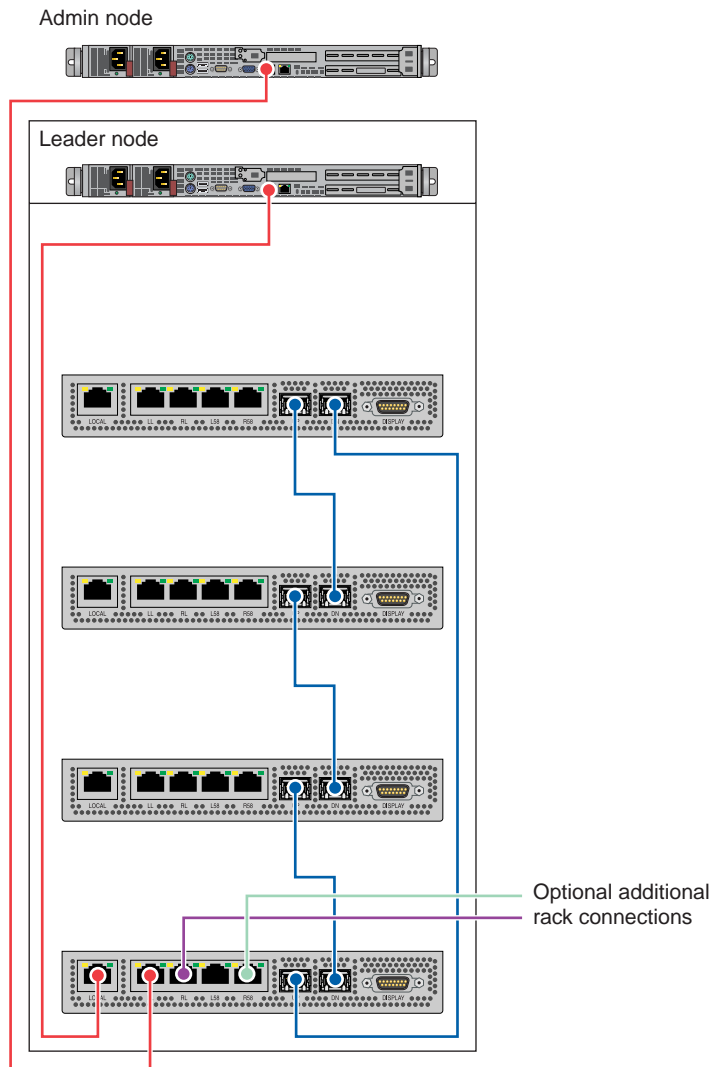

Figure 2-2 Chassis Manager Interconnection Diagram Example
- All enclosures within a system communicate with each other through their chassis manager connections (CMC) (note the chassis managers are enlarged for clarity in Figure 2-2).
The chassis manager in the lower IRU connects to the administration and rack leader servers, see the example in Figure 2-2. See also “Multiple Chassis Manager Connections” in Chapter 3.